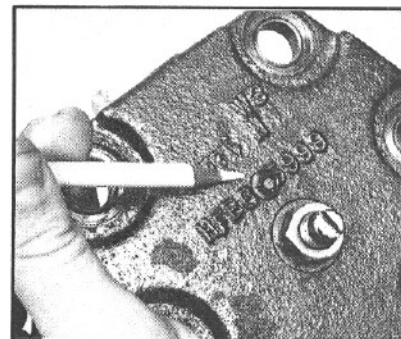

Figure 136
35. Press the rubber plug (60) into the hole provided in the side cover (58) until the plug is flush (FIG. 136).